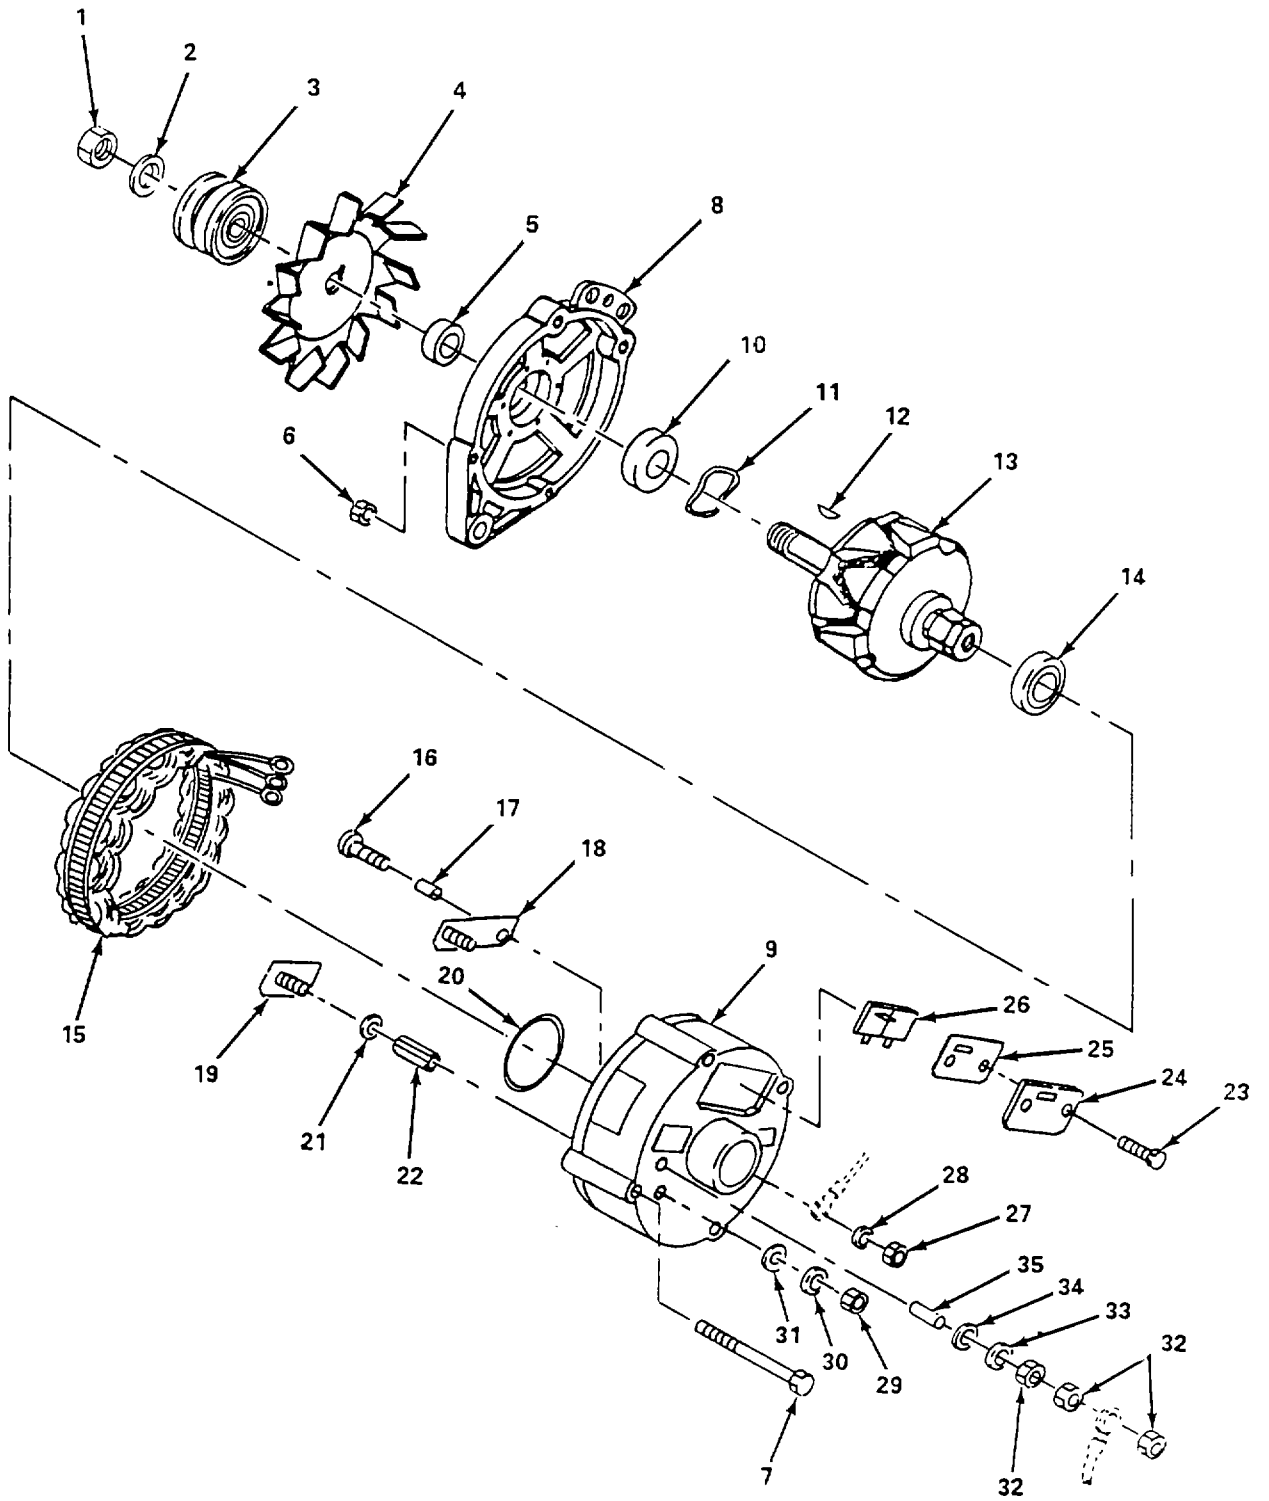

Figure 6-18. Alternator, Disassemble.
- (1) Disassemble. (figure 6-18)
- (a) Remove nut (1) and lockwasher (2).
- (b) Remove pulley (3), fan (4), and spacer (5).
- (c) Remove four nuts (6) and bolts (7).
- (d) Remove front housing (8) from rear housing (9).
- (e) Remove front bearing (10) and front bearing retainer (11).
- (f) Remove woodruff key (12), rotor assembly (13), rear bearing (14), and stator assembly (15).
- (g) Remove bolt (16), insulator sleeve (17), diode (18), and diode (19).
- (h) Remove rear bearing (20), insulator washer (21), and insulator sleeve (22).
- (i) Remove two screws (23), terminal ground (24), capacitor output (25), and bush assemble (26).
- (j) Remove nut (27) and washer (28).